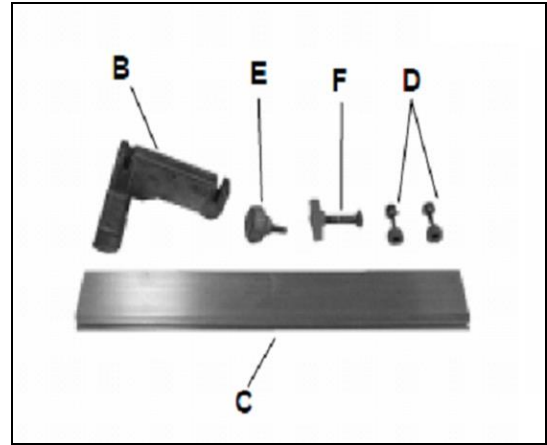

Fig 7
The rip fence on this bandsaw can be used on either side of the blade by fixing the rip fence extrusion (C, Fig 7) to the appropriate side of the rip fence casting (B).